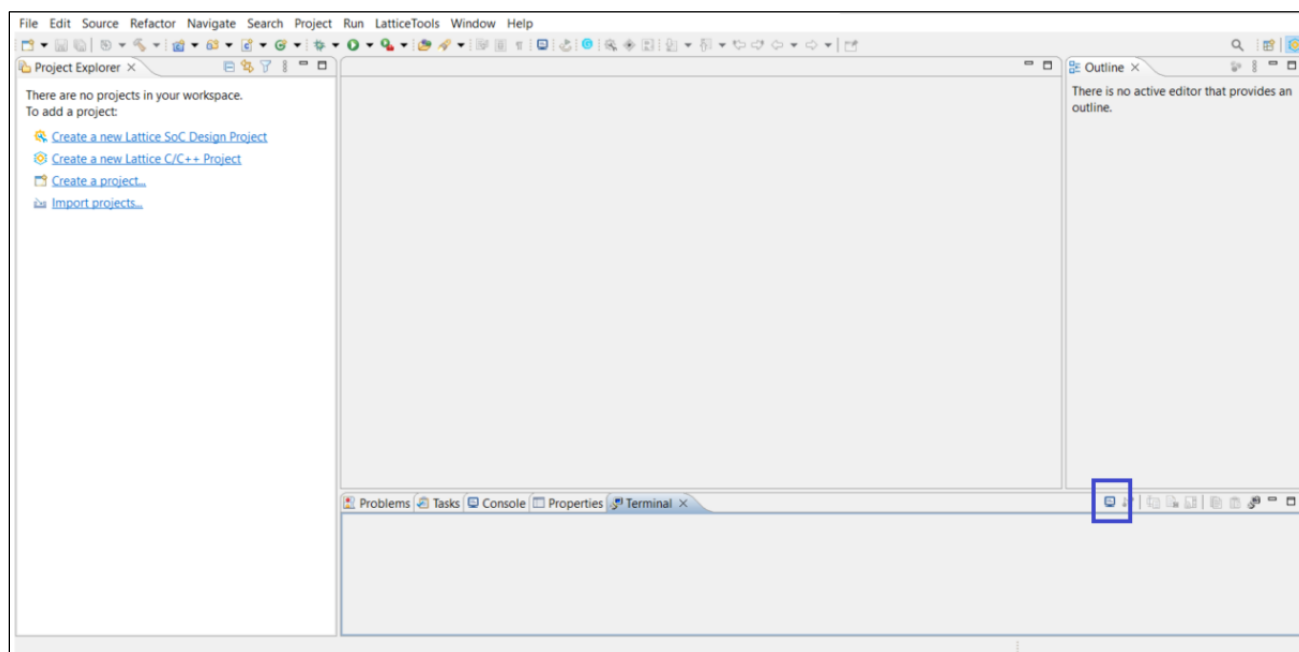

Figure 7.5. UART Terminal Icon on Propel SDK Window
3. Double-click on the terminal button shown in Figure 7.5.